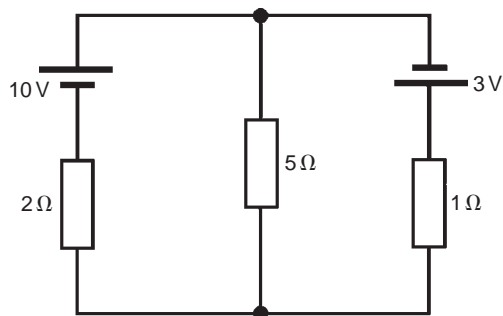

Figure RT4.1
1. Find the current flowing in the 5Ω resistor of the circuit shown in Fig. RT4.1 using (a) Kirchhoff's laws, (b) the superposition theorem, (c) Thévenin's theorem, (d) Norton's theorem. Demonstrate that the same answer results from each method.
2. A d.c. voltage source has an internal resistance of 2Ω and an open-circuit voltage of 24 V. State the value of load resistance that gives maximum power dissipation and determine the value of this power. (5)